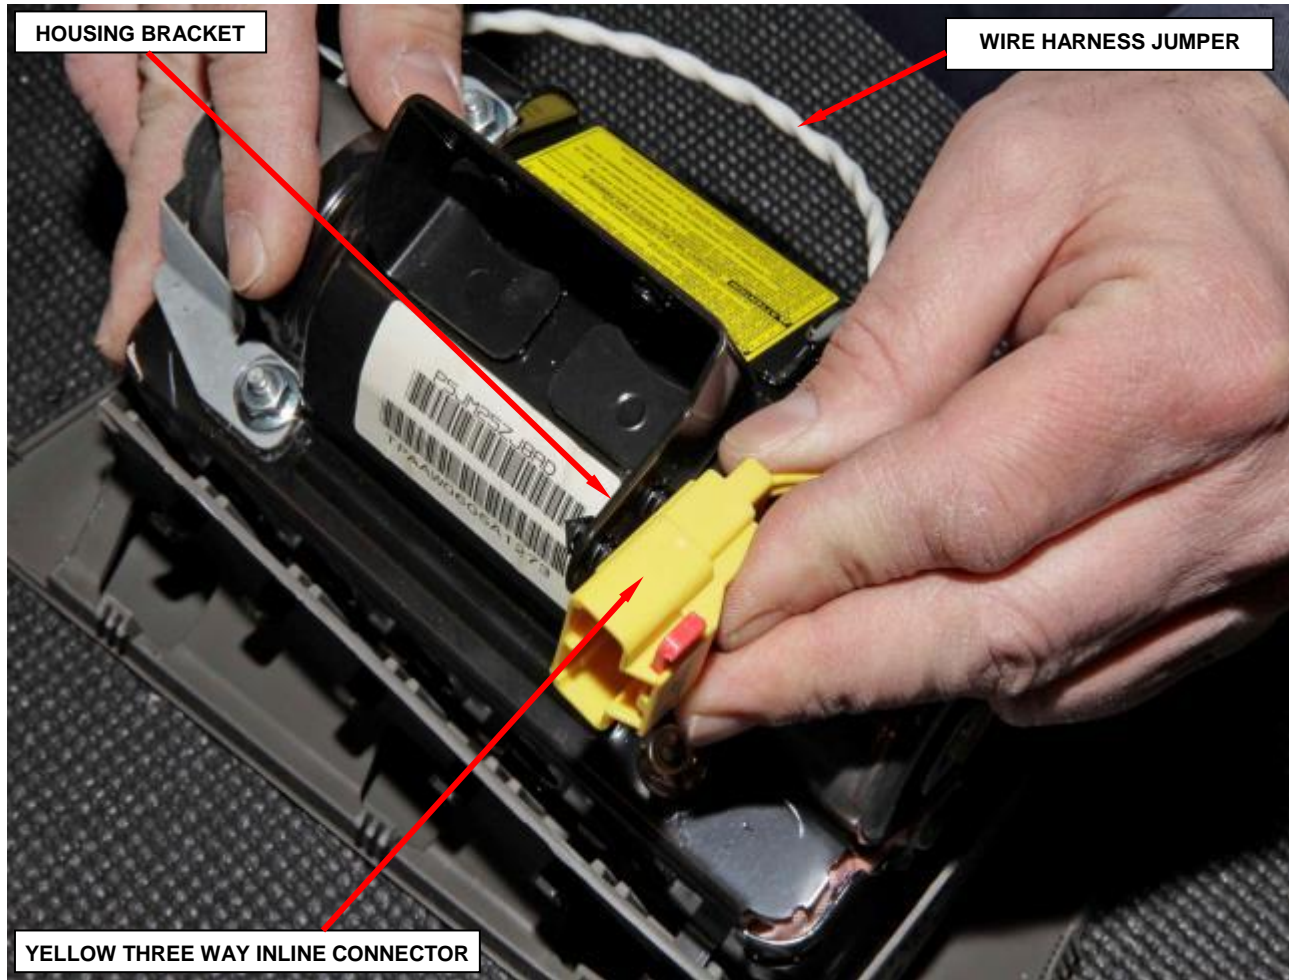

Figure 17 – Inflator Connectors
- d. Release the yellow three way inline connector from the housing bracket (Figure 17).